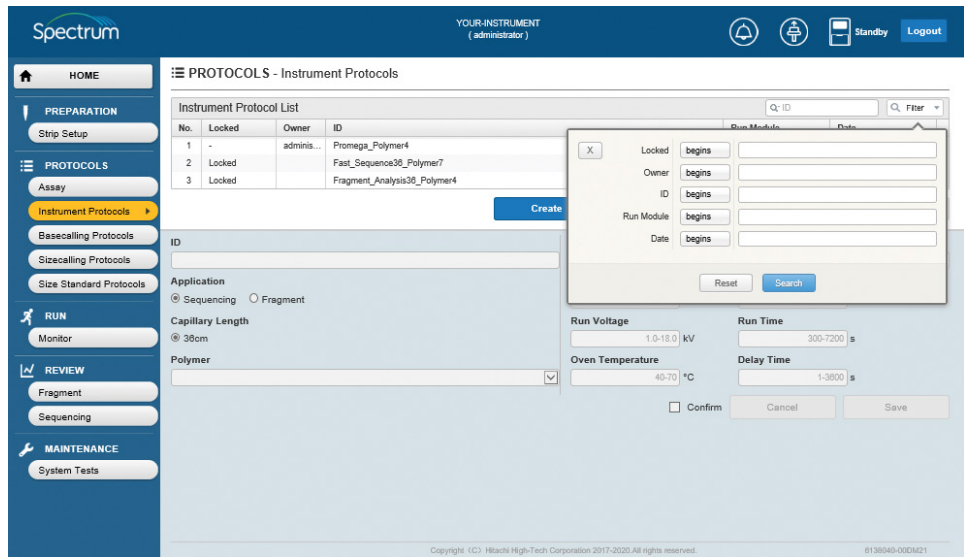

Figure 28. Instrument Protocol List search filter option selection.
3. After selecting the appropriate search field, select the magnifying glass or down arrow icon in the Filter box to display filtering options by the different fields (Figure 28).